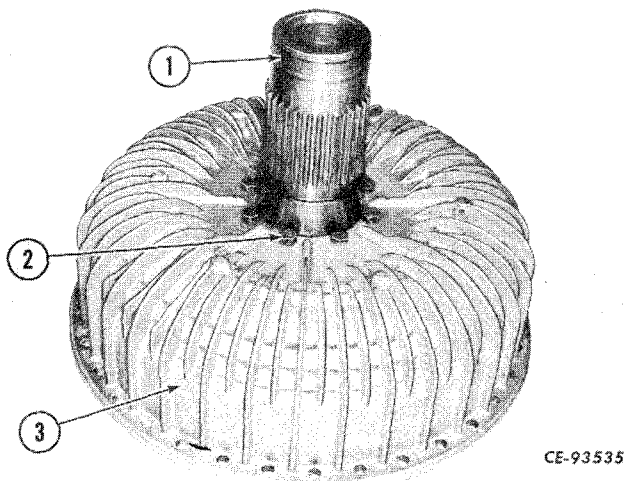

Figure 3-22
Remove the cap screws (2, Fig. 3-22) that secure the impeller hub (1) to the impeller (3).